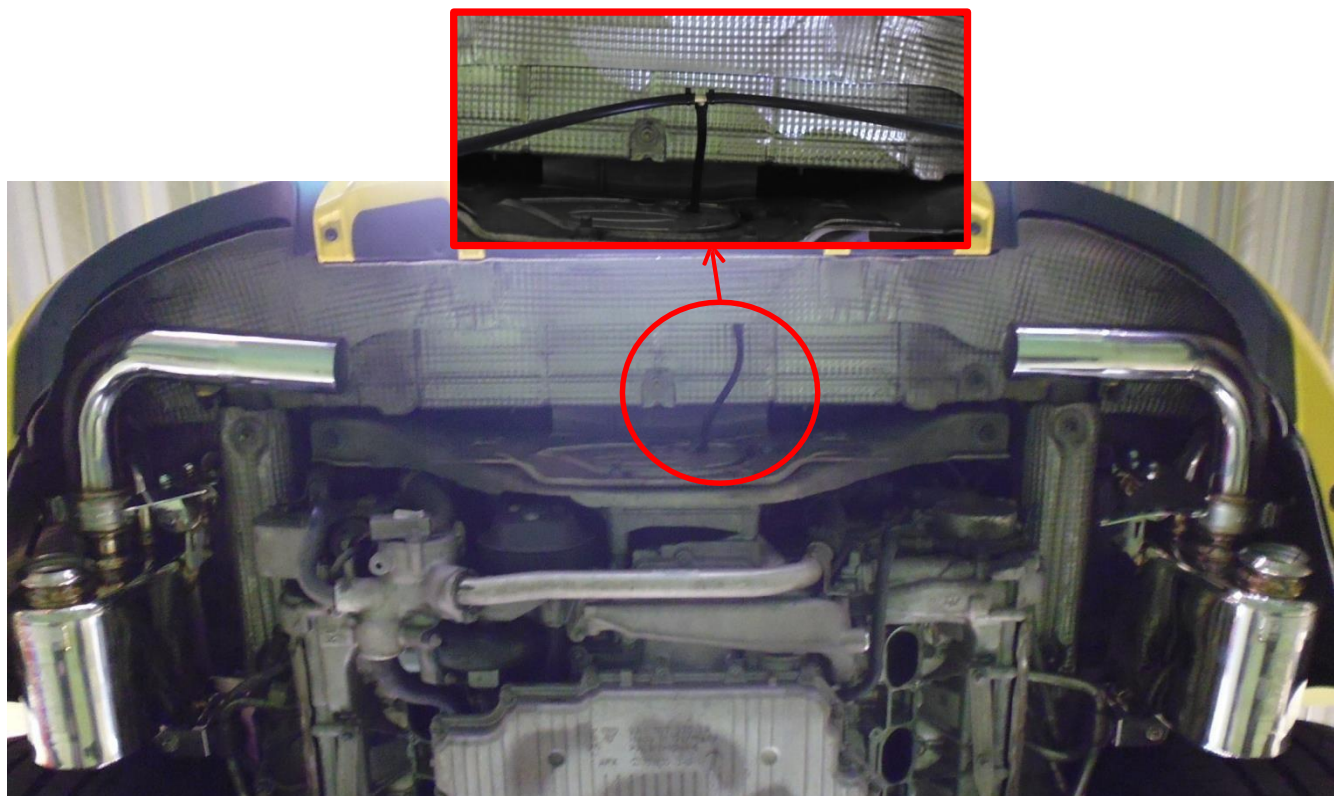

Fig 2-9
12. The original vacuum tube is connected to the left and right valves using a three-way connector. (Fig2-9)